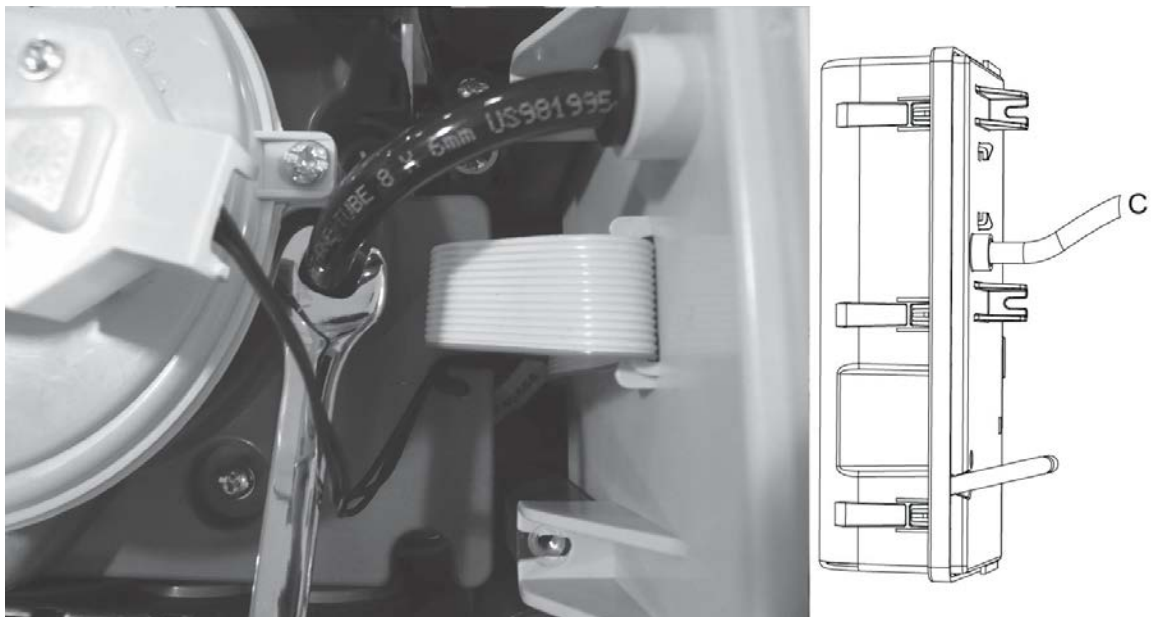

Figure 7-10: Remove Short Tube
7. Repeat the step above on the black ring (C) near the aspirator to remove the shorter tube (Figure 7-10).